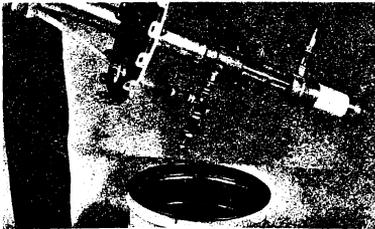

FIGURE 20
9.04 Tip the pump to a horizontal position and drain the remaining compound from the upper chamber through the opened valve No. 3. Properly dispose of any unused RP-6018 Compound. (See Figure 20)